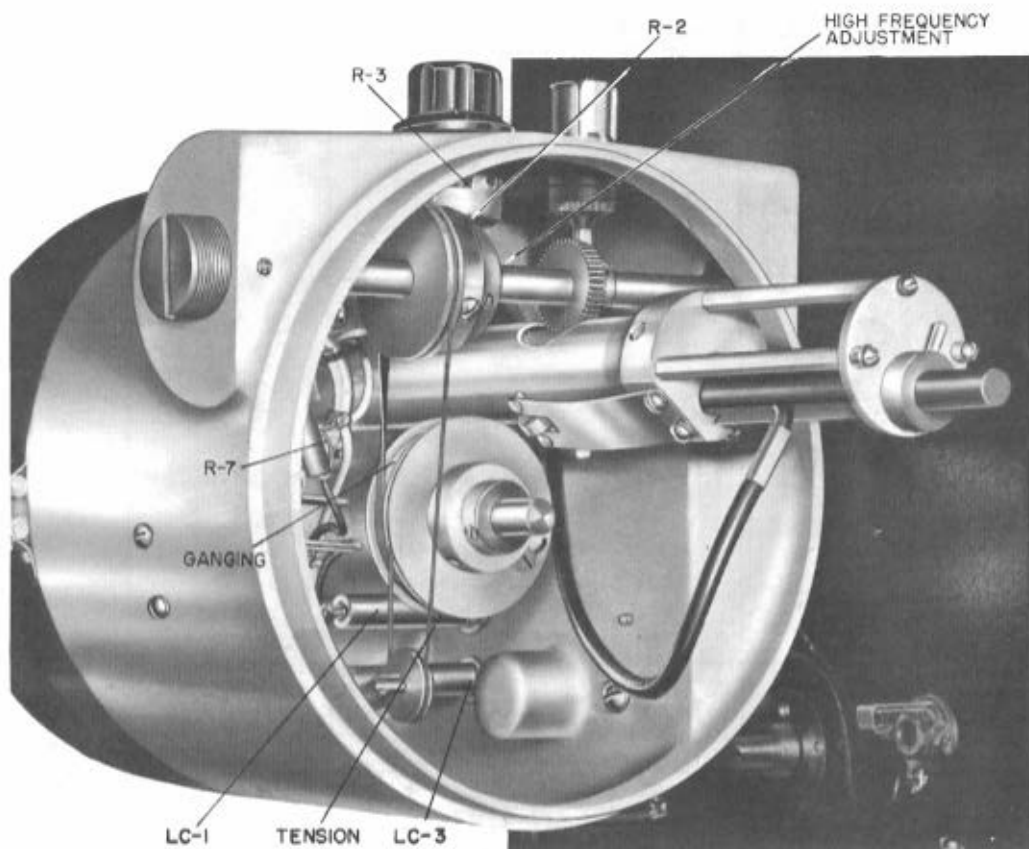

Figure 9. Left-Hand End of Oscillator, Cover Removed.
2.1 TUNED CIRCUITS. Performance and stability of the oscillator are determined by the short high-Q coaxial grid-plate line. The longer grid-cathode line is coiled in a circle to save space. The mechanical design of the oscillator is determined by this construction, which requires a linear motion for plate tuning and a rotational motion for the cathode tuning in a plane perpendicular to the plate line. The 1/4-in.-wide beryllium copper band and the rack and pinion visible in Figure 9 provide the linkage between the main frequency dial, which is rotated through 200° by eight turns of the vernier dial; the short-circuit plunger of the plate-grid line, which moves linearly by 1-3/4 in.; and the contact arm on the grid-cathode line, which rotates 200°.
Tracking between plate and cathode circuits depends on the relative position of two tuning elements, which are ganged by a 1/4-in. beryllium band. (See Figure 9.) This band is coiled on two pulleys, and tension is maintained by a cord that runs over a small third pulley. The diameters of the two larger pulleys determine the relative motion of the tuning elements. These diameters are fixed, but a small adjustment at high frequencies is provided by an arm, which interferes with the beryllium band and causes the cathode tuning to move faster. This arm is mounted on a metal ring, which rides on the large insulating pulley on the main drive shaft. (The arm is not visible in Figure 9.) To adjust the arm, rotate the metal ring on the large pulley.